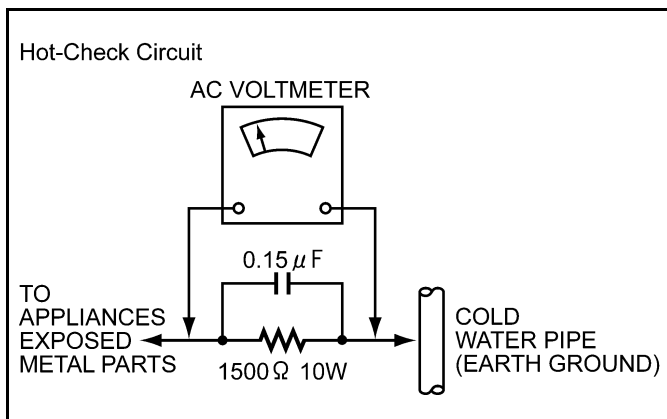

Figure 1
LEAKAGE CURRENT HOT CHECK (See Figure 1)
2. Connect a 1.5k , 10W resistor, in parallel with a 1.5 μ F capacitor, between each exposed metallic part on the set an a good earth ground such as a water pipe, as shown in Figure 1.